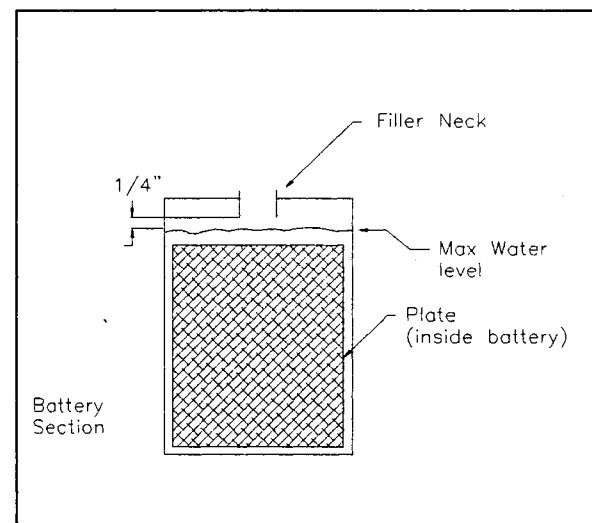

Figure 3-13
- Check the electrolyte in all of the batteries. If low, fill with distilled water to the correct level (see Figure 3-13).